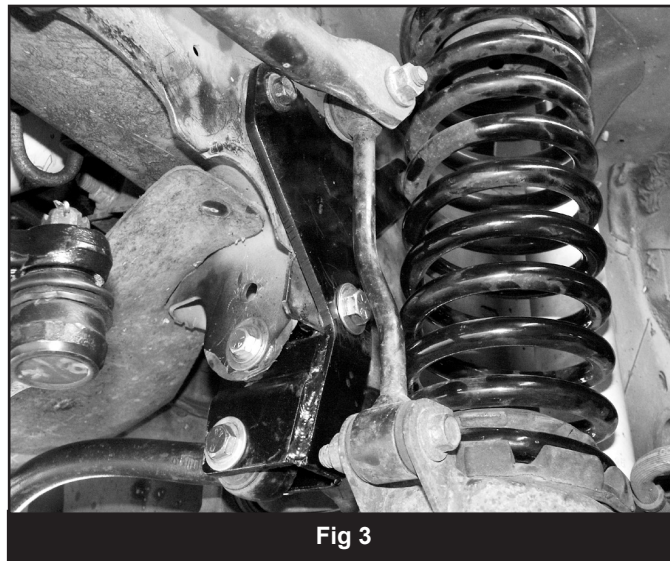

Fig 3
7. Slide the provided track bar bracket (01491) in place (Fig 3). Position the provided 3/16" thick spacer washers (BP #727) between each of the upper mounting holes in the bracket and the body. Attach the bracket through the motor mount holes with 10mm x 120mm bolts and 3/8" USS flat washers (BP #727). Leave hardware loose.